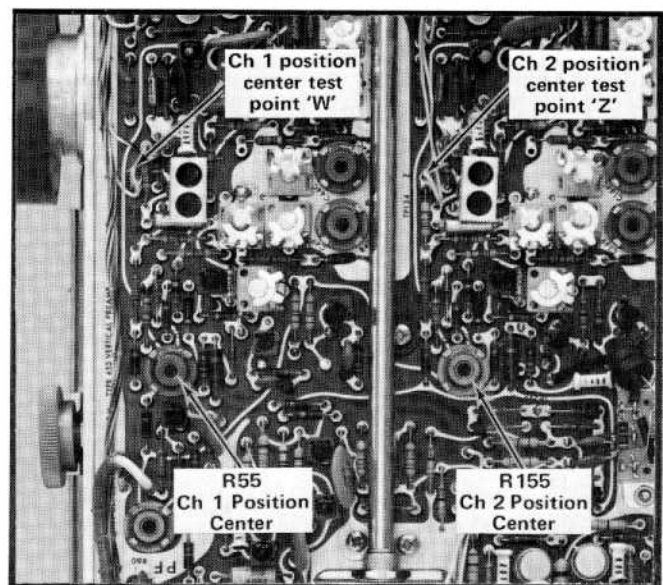

Fig. 5-8. Location of position center test points and adjustments (Vertical Preamp board).
- a. Connect the DC voltmeter between pin connector "Z" on the Vertical Preamp board (see Fig. 5-8) and chassis ground.
d. ADJUST—CH 2 Position Center adjustment R155 (see Fig. 5-8) to position the trace to the center line.
f. Connect the DC voltmeter between pin connector "W" on the Vertical Preamp board (see Fig. 5-8) and chassis ground.
i. ADJUST—CH 1 Position Center adjustment R55 (see Fig. 5-8) to position the trace to the center line.